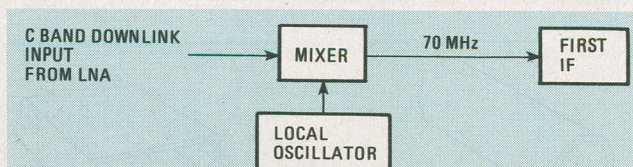

FIG. 5—IN A DOWNCONVERTER, the downlink signal is mixed with the output of a local oscillator to produce a 70-MHz IF.
Basically, the downconverter is the equivalent to the front end of a superheterodyne receiver, consisting of a mixer and a local oscillator. The output of that mixer-local oscillator arrangement is an intermediate frequency (IF) and, for TVRO systems, is generally 70 MHz (see Fig. 5).